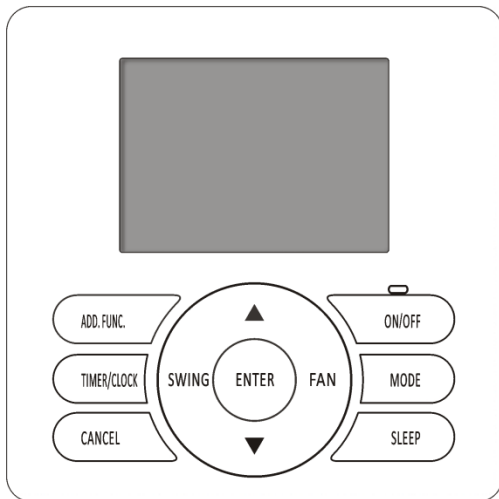
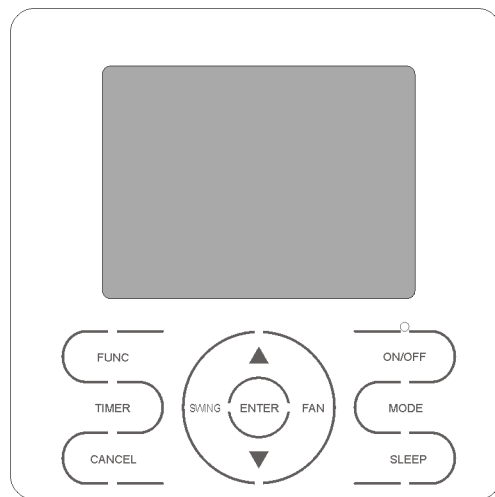

Fig.2 YXE-C01U/ YXE-C02U(E)
Fig.3 YXE-D01U(E)
Fig.2 short wiring
Fig.3 output line
Pins of the OUT INPUT CN16 socket shown in the electrical wiring diagram of Fig 1 are tacitly approved to be in short circuit state under the factory state (an external short circuit plug shown as Figure 2).
1) When using the room card control, the user cuts off the short wire shown in Figure 2 and connects the red lines to
2) When using the fire protection , the user cuts off the short wire shown in Figure 2 and connects the White lines to the control switch (supplied by user), and the connecting wire should be 22AWG or above specification. The switch is closed under normal conditions and off under abnormal conditions.
3) When using the ON/OFF function, the user cuts off the short wire shown in Figure 2 and connects the White lines the ON/OFF control switch (supplied by user), and the connecting wire should be 22AWG or above specification. In normal conditions, the machine starts once the switch is closed and the machine shuts down once the switch is off.
Fig.3 main control board
3 pins of the OUT INPUT CN16 socket shown in the electrical wiring diagram of Figure 1 are tacitly approved to be in short circuit state under the factory state (an external short circuit plug shown as Figure 2), and the OUT INPUT CN16 socket of main control board is shown as Figure 3.
- 4) When using the room card control or fire protection , the user cuts off the short wire shown in Figure 2 and connects the red line and the black line to the control switch (supplied by user), and the connecting wire should be 22AWG or above specification. The switch is closed under normal conditions and off under abnormal conditions.
- 5) When using the ON/OFF function, the user cuts off the short wire shown in Figure 2 and connects the black line and the white line to the ON/OFF control switch (supplied by user), and the connecting wire should be 22AWG or above specification. In normal conditions, the machine starts once the switch is closed and the machine shuts down once the switch is off.